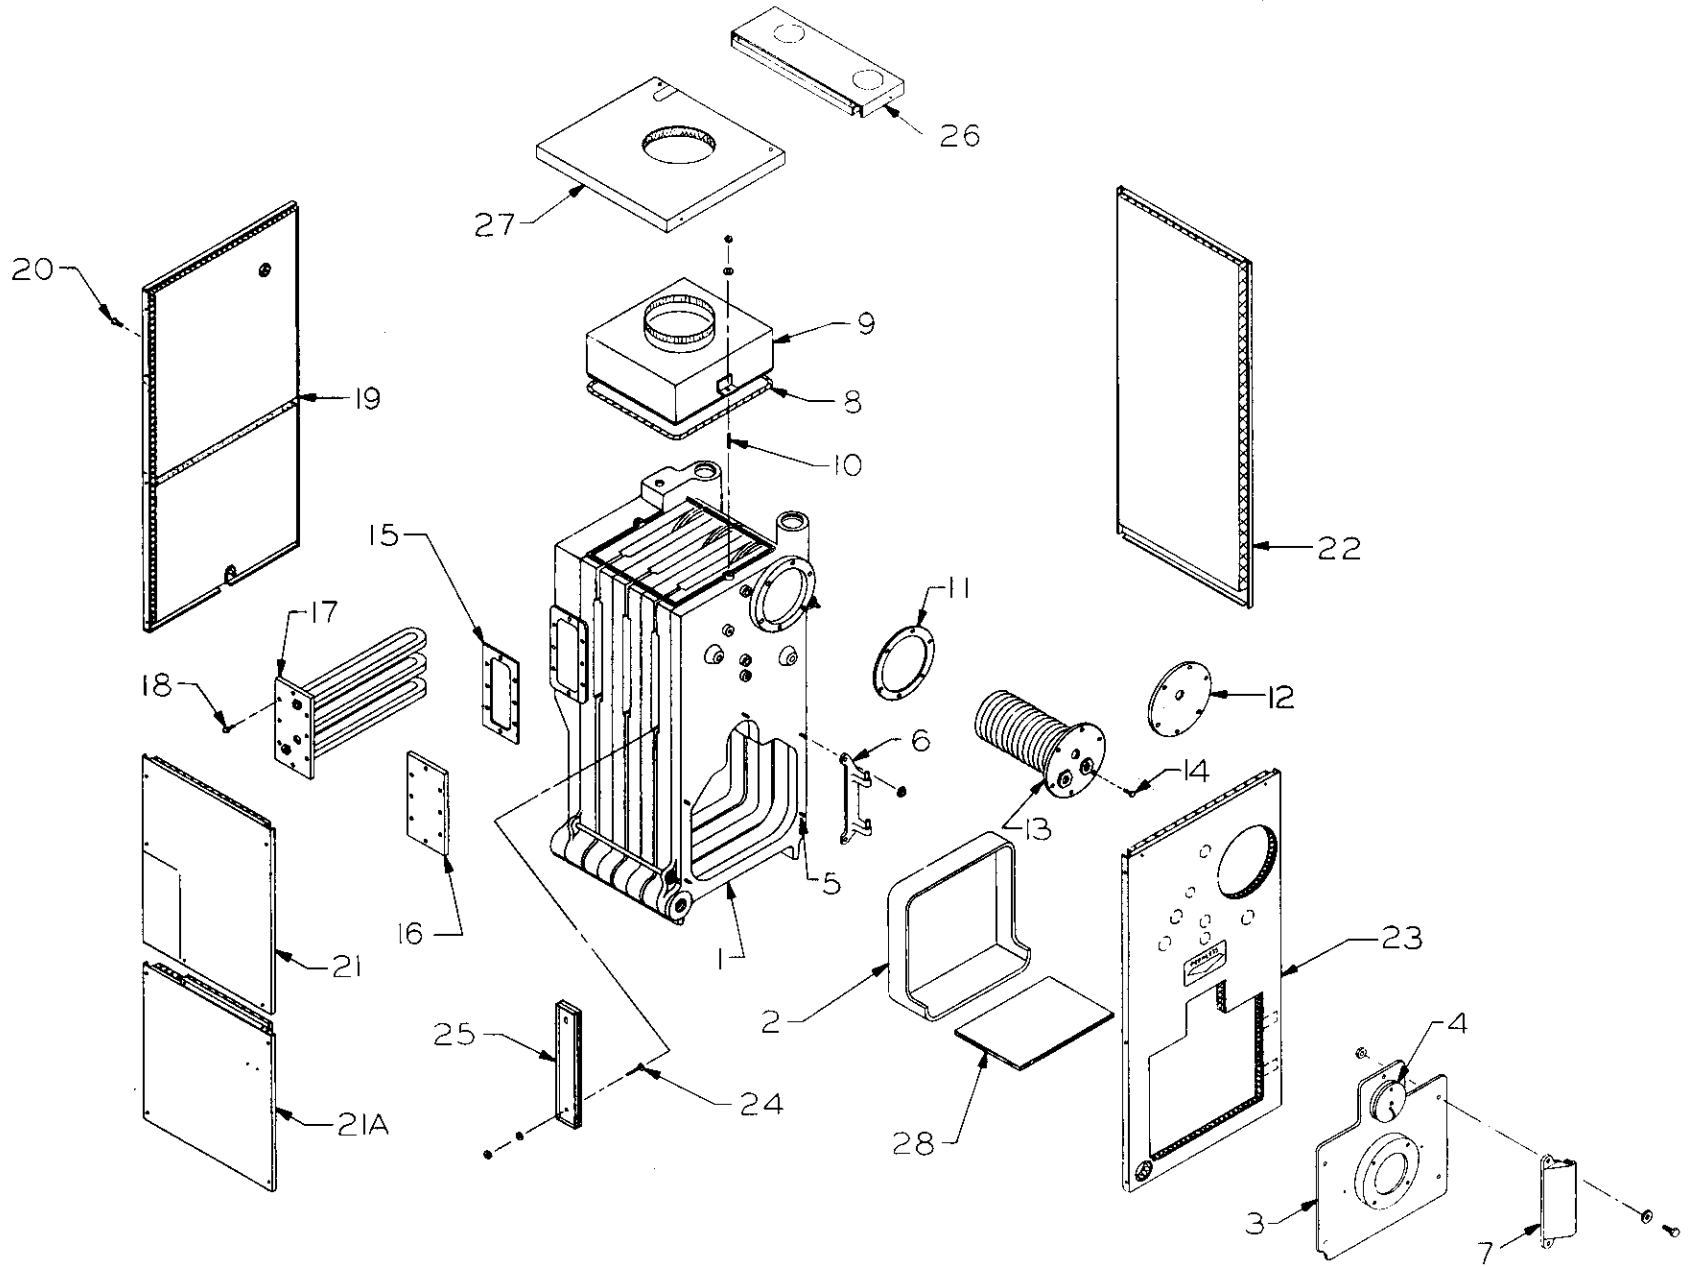

Figure 4
- 2 – Open flue collector carton. Remove flue collector (Item 9, Fig. 4) and high temperature rope. Lay rope (Item 8, Fig.4) on top of boiler against bead provided. Place flue collector on top of rope and attach to boiler with $1/4"$ -20 x $1 3/4"$ studs with nuts through flue collector brackets into the tapped lugs provided in the top of the boiler end sections. Draw nuts down snugly.
- 3 – Install Internal Hinge P/N EC1021 (Item 6, Fig. 4) to front section of boiler with (2) $\frac{5}{16}$ -18 UNC x $\frac{3}{4}$ " hex head cap screws and $\frac{5}{16}$ " flat washers (do not use the $1\frac{1}{4}$ " long screws).
- 4 – Install External Hinge P/N EC10122 (Item 7, Fig. 4) to the outside of the burner mounting plate with (2) $\frac{5}{16}$ -18 UNC x $1\frac{1}{4}$ " hex head cap screws, flat washers, and nuts. The cap screws should be inserted through the back of the burner mounting plate, then through the hinge. Do NOT tighten External Hinge screws at this time. This will allow for alignment of the plate once it is placed in position.
- 5 – Hang burner mounting plate in position, then close to align the remaining three (3) studs on left side of section. Once alignment is accomplished, tighten nuts on External Hinge. Do NOT reinstall nuts/washers on left side studs until after jacket installation.
- 6 – Remove observation door (Item 4, Fig. 4) from inside burner mounting plate. Attach the observation door to the outside of the mounting plate.
- 1 – Refer to Page 4, Fig. 4 for exploded view. Attach the back panel (19) to bosses on middle of back section with two $\frac{1}{4}$ " x $\frac{3}{8}$ " truss head machine screws (20) provided. The back panel has two $\frac{5}{16}$ " diameter holes close to the center of the panel.
- 2 – Lift off the burner mounting plate. Place cerafelt liner (28) on floor of boiler in front of target wall.
- 3 – Remove the (2) knock-outs in the front jacket panel (23) which allow clearance for the hinge. Place the front jacket panel on the block and replace the burner mounting plate.
- 4 – Attach right side jacket panel (22) to the front and back panels with sheet metal screws.